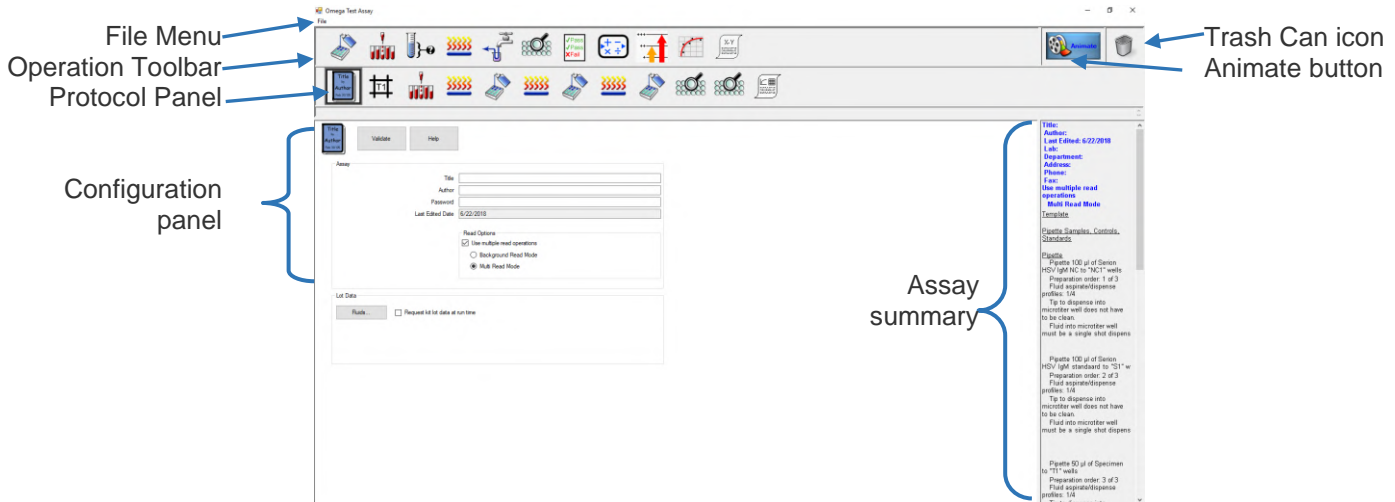

Figure 62: Assay Editor Window
1. Click *File* → *Assay Editor* to display the *Assay Editor* window (Figure 62).